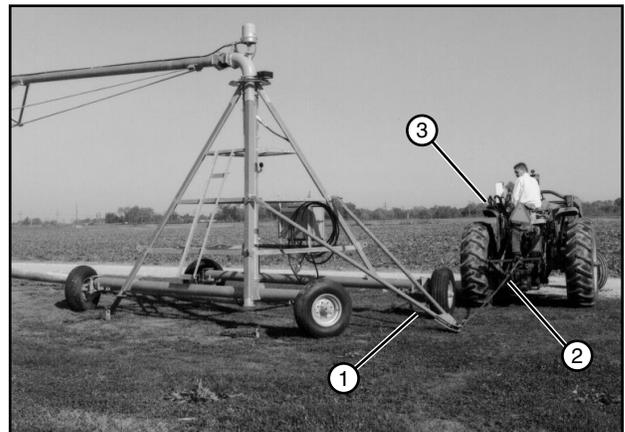

Figure 49-3 1. Tongue
15. Connect tongue to towing unit with a chain. See figure 49-3.